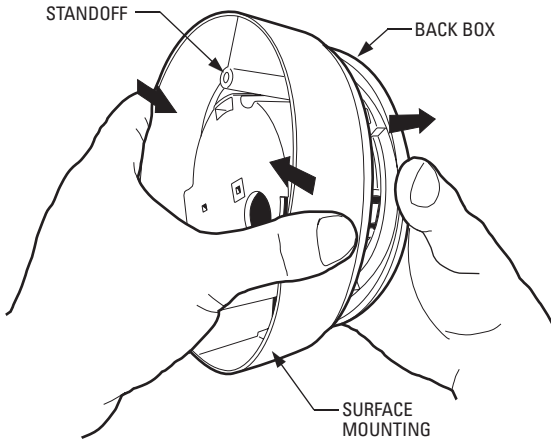

Figure 5. Removing the Surface Mount Ring from the Back Box
1. Remove the surface mount ring from the back box (refer to Figure 5):
1. Remove the surface mount ring from the back box (refer to Figure 5 on page 11):
- Remove the surface mount ring from the back box (refer to Figure 5 on page 11):